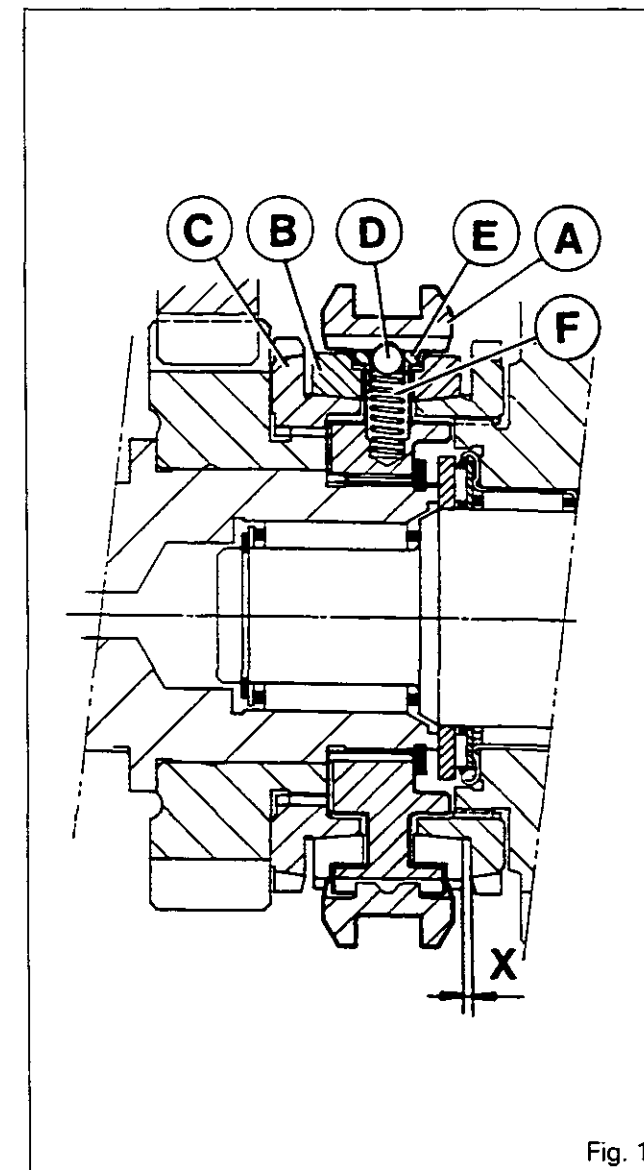
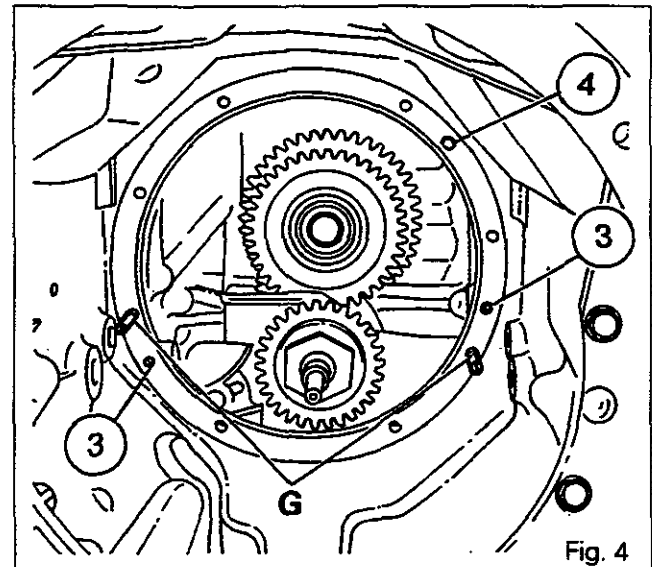

Fig. 1
Fig. 4
**Gearbox - Transmission assembly****Synchromesh units (Fig. 1)****Locking position**
5. Remove the wet clutch, see Section 4 A01 or 4 B01 according to the version, and use the type of sling suitable for the input unit (Fig. 1 or 8) with bolts "A" of the correct length. Remove the PTO shaft.
10. On the housing, position the new O-rings (3) and the locating pin (4) (Fig. 4).
11. On the gearbox, screw in two locating studs «G», as per Fig. 4. Position the unit in the housing, using the sling.
12. At a first stage, with the help of an operator, slightly lift the layshaft through the opening of the selector cover in order to engage the cone of the shaft in the cup (64).
13. Rotate the shaft (7) using the sleeve 3378004M1 (Figs 1 and 8) (see Part C). Position the unit with respect to the locating pin. Tighten the bolts to a torque of 45 - 60 Nm.